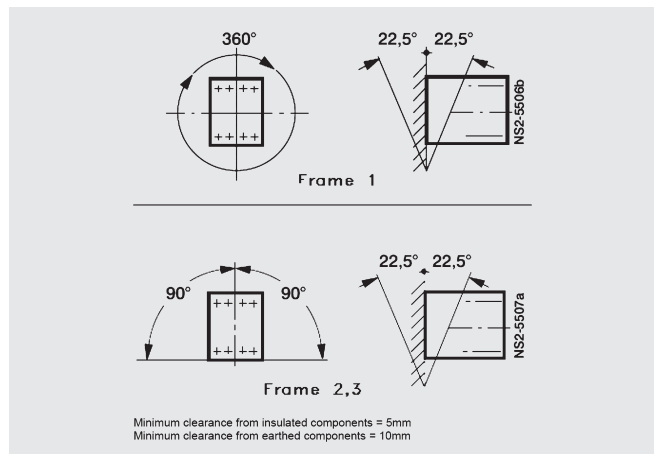

Fig. 2 Mounting Positions for 3TS11... to 3TS15...
1. Permitted mounting positions are indicated in Fig.2